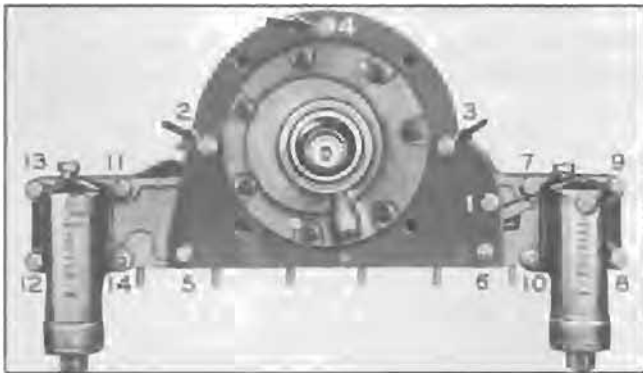

Figure 4-141—Reaction Shaft Flange and Accumulator Bolt Tightening Sequence
6. Install 3 special bolts ( $\frac{3}{8}$ "-16x2") with plain washers in positions marked 2, 3, 4 in figure 4-141. These bolts are for assembly purpose only. Install regular pump cover bolts, nuts, and lockwashers at positions marked 1, 5, 6. Coat threads of bolt No. 5 with Permatex No. 3.
7. Referring to figure 4-141, tighten all bolts and nuts (1 through 14) to 5 ft. lbs. torque in the numerical sequence shown. Following the same sequence again, tighten bolts 1 through 4 to 35-40 ft. lbs. and the remaining bolts and nuts to 20-25 ft. lbs.